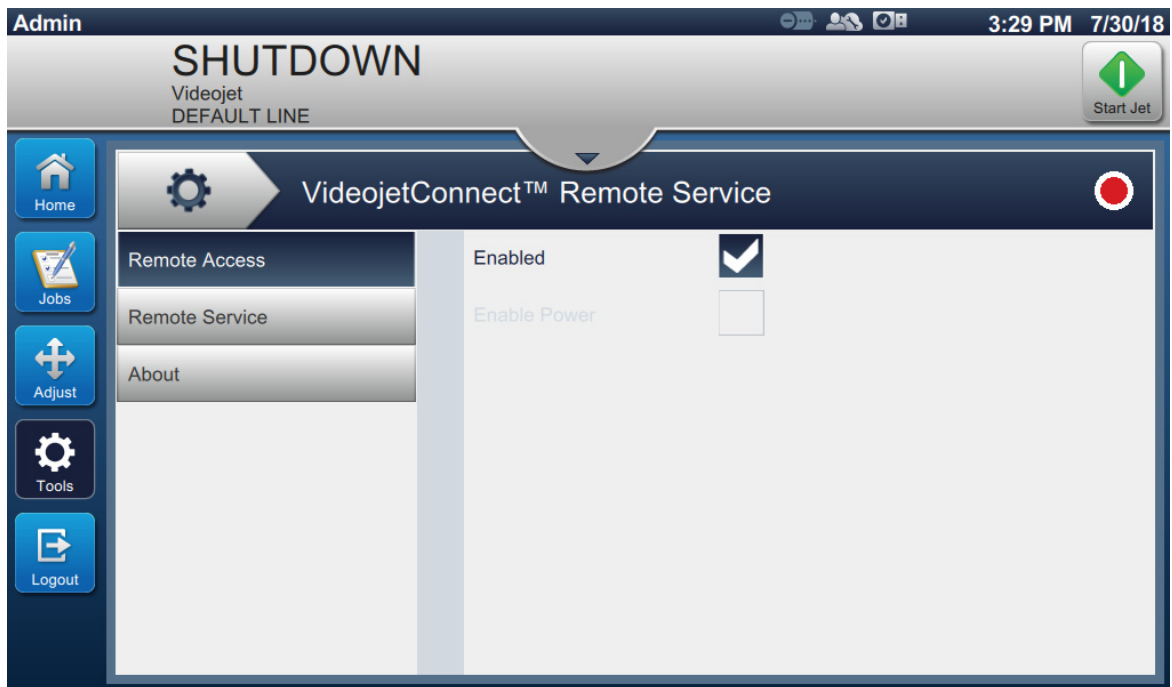

Figure 6-25: VideojetConnect Remote Service Screen
1. Touch the  button from the Tools screen. The VideojetConnect Remote Service screen opens as shown in the Figure 6-25.